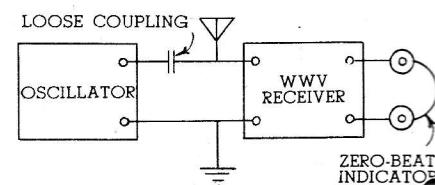

Fig. 1
R.F. Oscillators: This is the most common application of the standard frequencies and refers to the standardization of radio frequency oscillators operated at the same or a lower frequency than that of the standard signal. Such equipment includes *frequency standards* (which are generally operated at fundamental frequencies of 100, 250, 500, or 1000 kc. etc.) *signal generators*, and *test oscillators*. These devices may be loosely-coupled directly to the WWV receiver, as shown in Figure 1, through a small capacitor, or by linking the insulated output lead (from the oscillator) about the antenna post of the receiver.